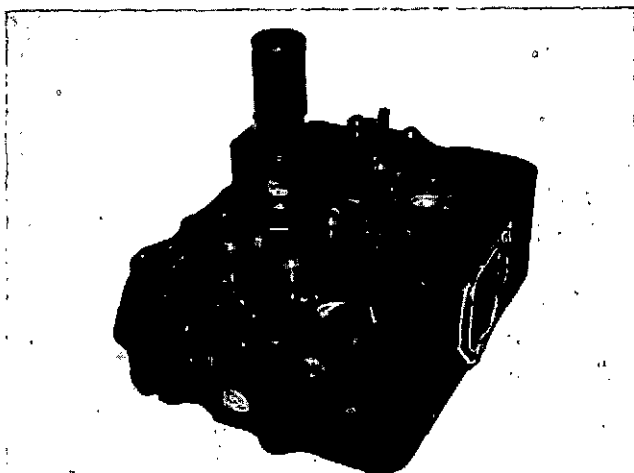

Fig. 2-21. Install The Tool Into The Cylinder Head.
2. Install the tool in to the sleeve so that the legs of the bridge are against the surface of the cylinder head, Fig. 2-21